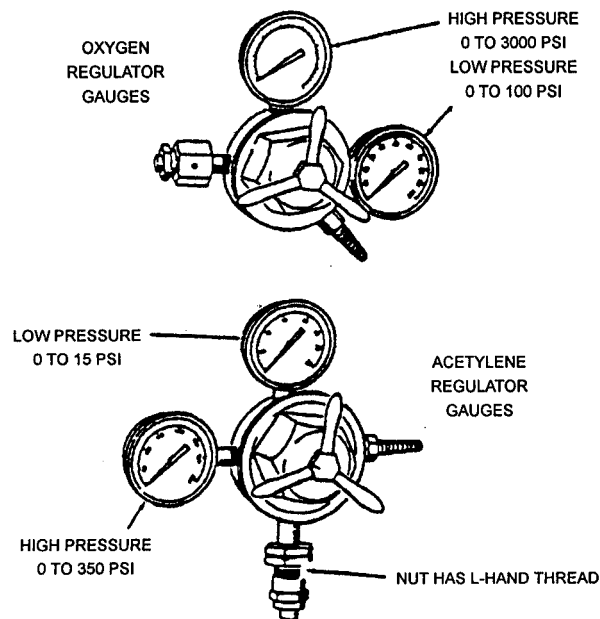

Figure 3-7 Regulator outlet fittings
- e Regulator outlet fittings also differ in size and thread, depending upon the gas and regulator capacity. Oxygen outlet fittings have right-hand threads and fuel outlet fittings have left-hand threads with grooved nuts (See **Figure 3-7.**)
- (1) The regulator adjusting screw should be released, or backed out, before opening the cylinder valve.
- (2) Always open cylinder valves very slowly so the high pressure gas does not surge into the regulator. When doing this, stand off to one side of the regulator, rather than directly in front of it.
- (3) Check gauges periodically to ensure correct readings.
- (4) Adjusting screws should be turned in slowly to protect the regulator diaphragm from damage caused by a sudden surge of high pressure gas.